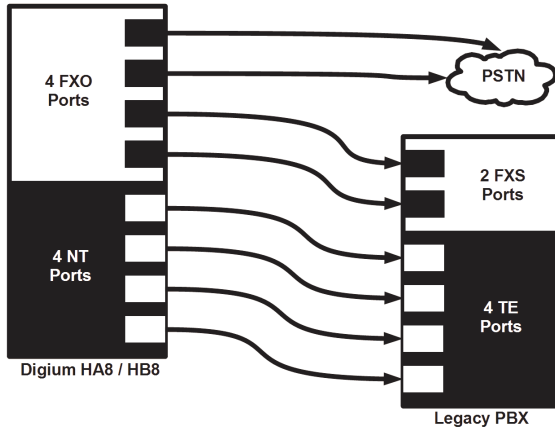
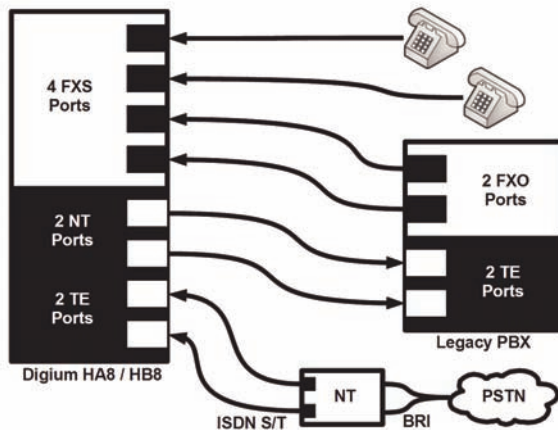

Figure 1: Sample Card Application for FXO / BRI
Figure 2: Sample Card Application for FXS / BRI
The Digium BRI module is compatible with Euro-ISDN. It is capable of serving as a Terminal Equipment (TE) and/or Network Termination (NT) device. When configured as an NT device, it is the source of BRI lines as shown in Figure 1 and Figure 2.